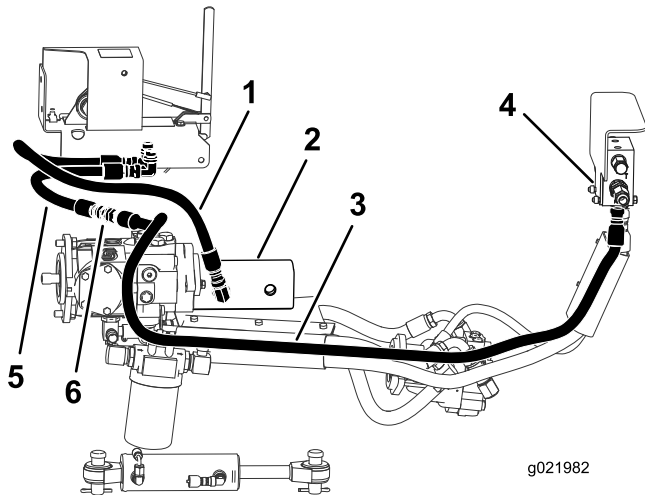

Figure 19
1. Disconnect hose A from hose D, leaving the hose connector attached to hose A (Figure 19).